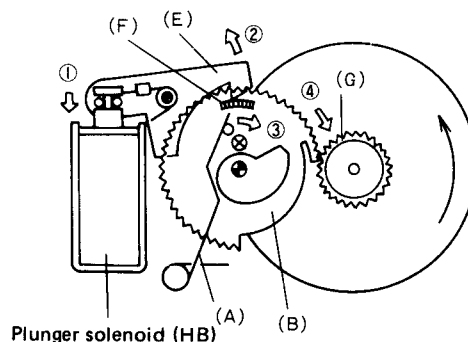

Fig. 4-2 STOP to PLAY operation 1
● **STOP → PLAY (Fig. 4-2)**
First, the plunger solenoid (HB) is activated to switch the mechanism to playback mode as shown in Figs. 4-2 thru 4-4 (but only for a very short period of time). Plunger solenoid (MS) is activated at the same time, and although plunger solenoid (HB) is soon released, the head base is kept in the raised state by plunger solenoid (MS) via MS arm B, brake lever, and HB stopper. The pinch roller is separated from the capstan by MS arm A. When the reel motor then rotates, the cue (review) operation is started.